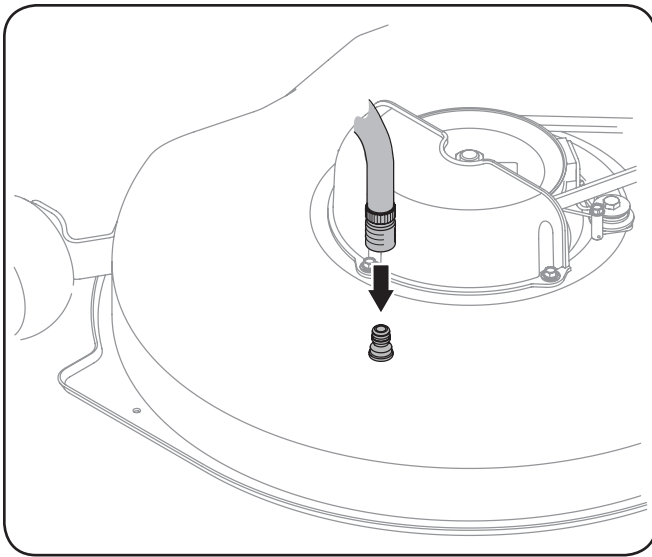

Figure 6-3
4. Attach the hose coupler to the water port on the deck's surface. See Figure 6-3.